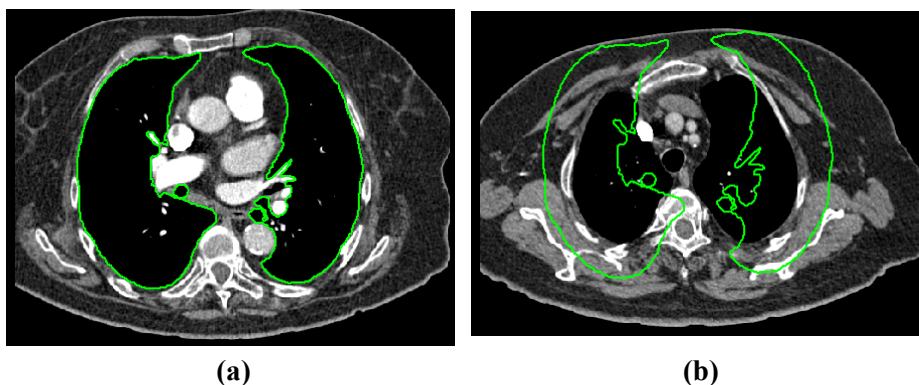

Figure 181 – Contour on the last image (a), Accepted nearest contour from the last image into the 1st image (b)
3. The nearest drawn contour will be automatically copied to the current image (see Figure 181).